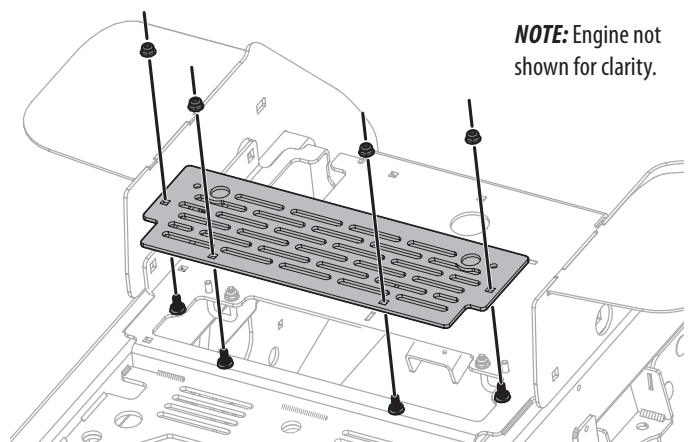

Fig. 27
1. Remove four nuts and transmission fan cover plate (Fig. 27).